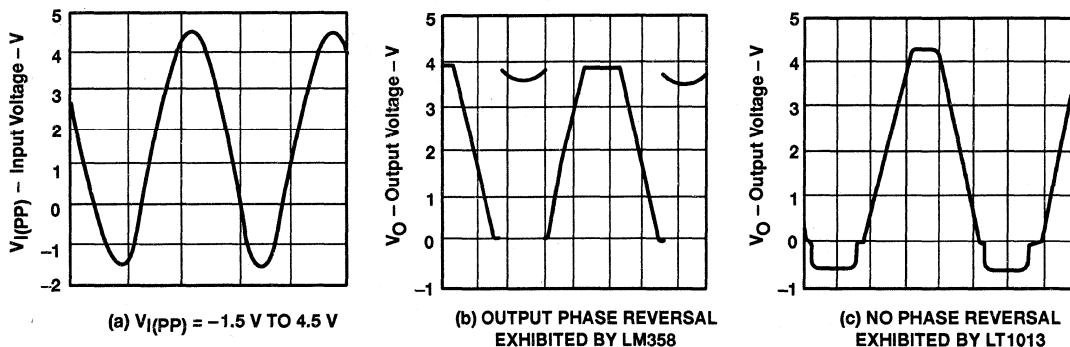

Figure 24. Voltage-Follower Response With Input Exceeding the Negative Common-Mode Input Voltage Range
2. When the input is more than 400 mV below ground (at  $T_A = 25^\circ\text{C}$ ), the input stage of similar type operational amplifiers saturates and phase reversal occurs at the output. This can cause lock up in servo systems. Because of a unique phase-reversal protection circuitry (Q21, Q22, Q27, and Q28), the LT1013 outputs do not reverse, even when the inputs are at -1.5 V (see Figure 24).